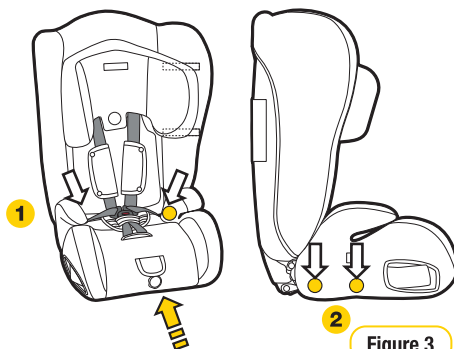

Figure 3
Step 1: Slide the cover on to the seatbase (refer Figure 3).